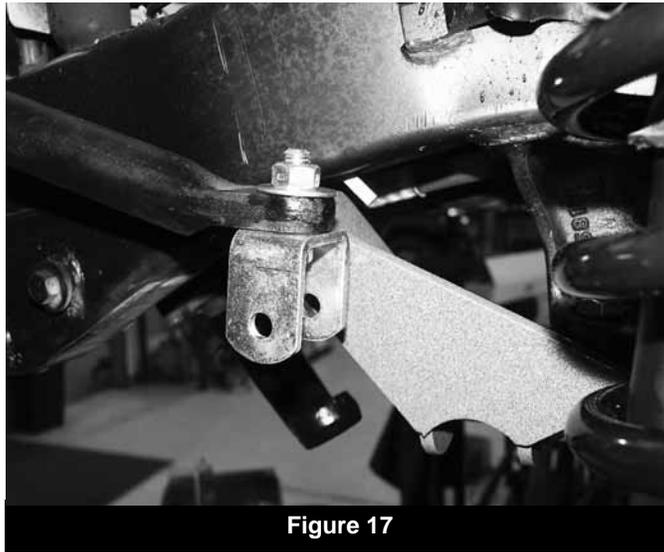

Figure 17
49. Install the provided upper u-bracket (01325) to the sway bar using the original link mounting hole with a $\frac{7}{16}$ " x 1-1/2" bolt, nut, $\frac{7}{16}$ " SAE and $\frac{7}{16}$ " USS washers (BP 718). Install the bolt up through the u-bracket with an SAE washer into the sway bar. Fasten with the nut and USS washer. Position the bracket so that the thru-holes are parallel with the stud on the axle (Fig 17). Torque to 50 ft-lbs.